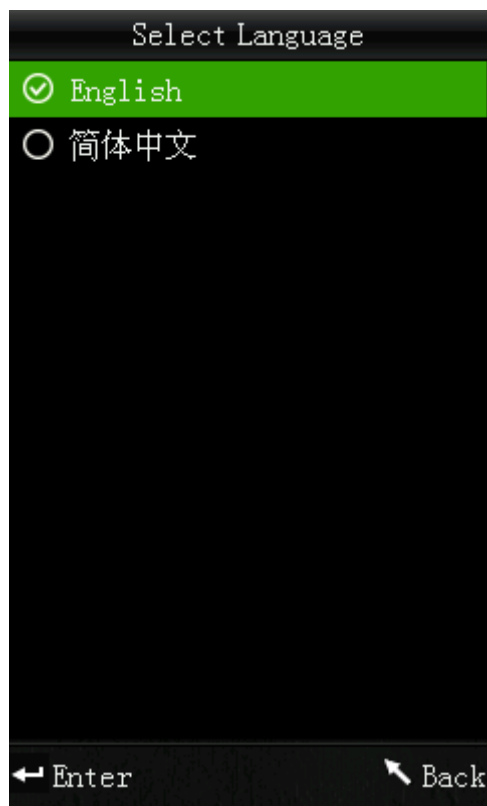

Figure 24 Language Selection Interface
- a) Select “Function Settings” - “Language” to enter an interface shown in Figure 24. You can select the language according to your need by pressing “Up” and “Down” buttons. Press “Enter” to save the settings and return to the main menu.